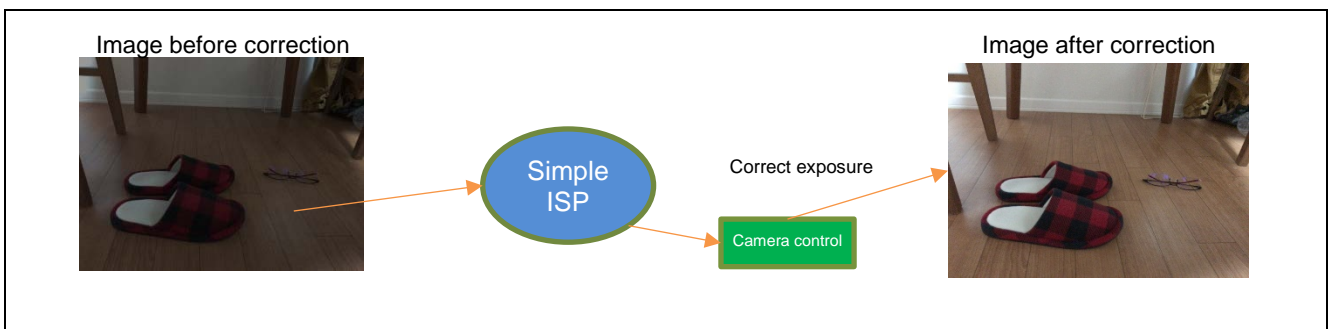

Figure 4.3 Lightness integrating process
Auto Exposure correction (AE) controls the exposure of the camera (shutter speed and camera gain) based on the color component accumulated value of the output from Simple ISP (Figure 4.3).